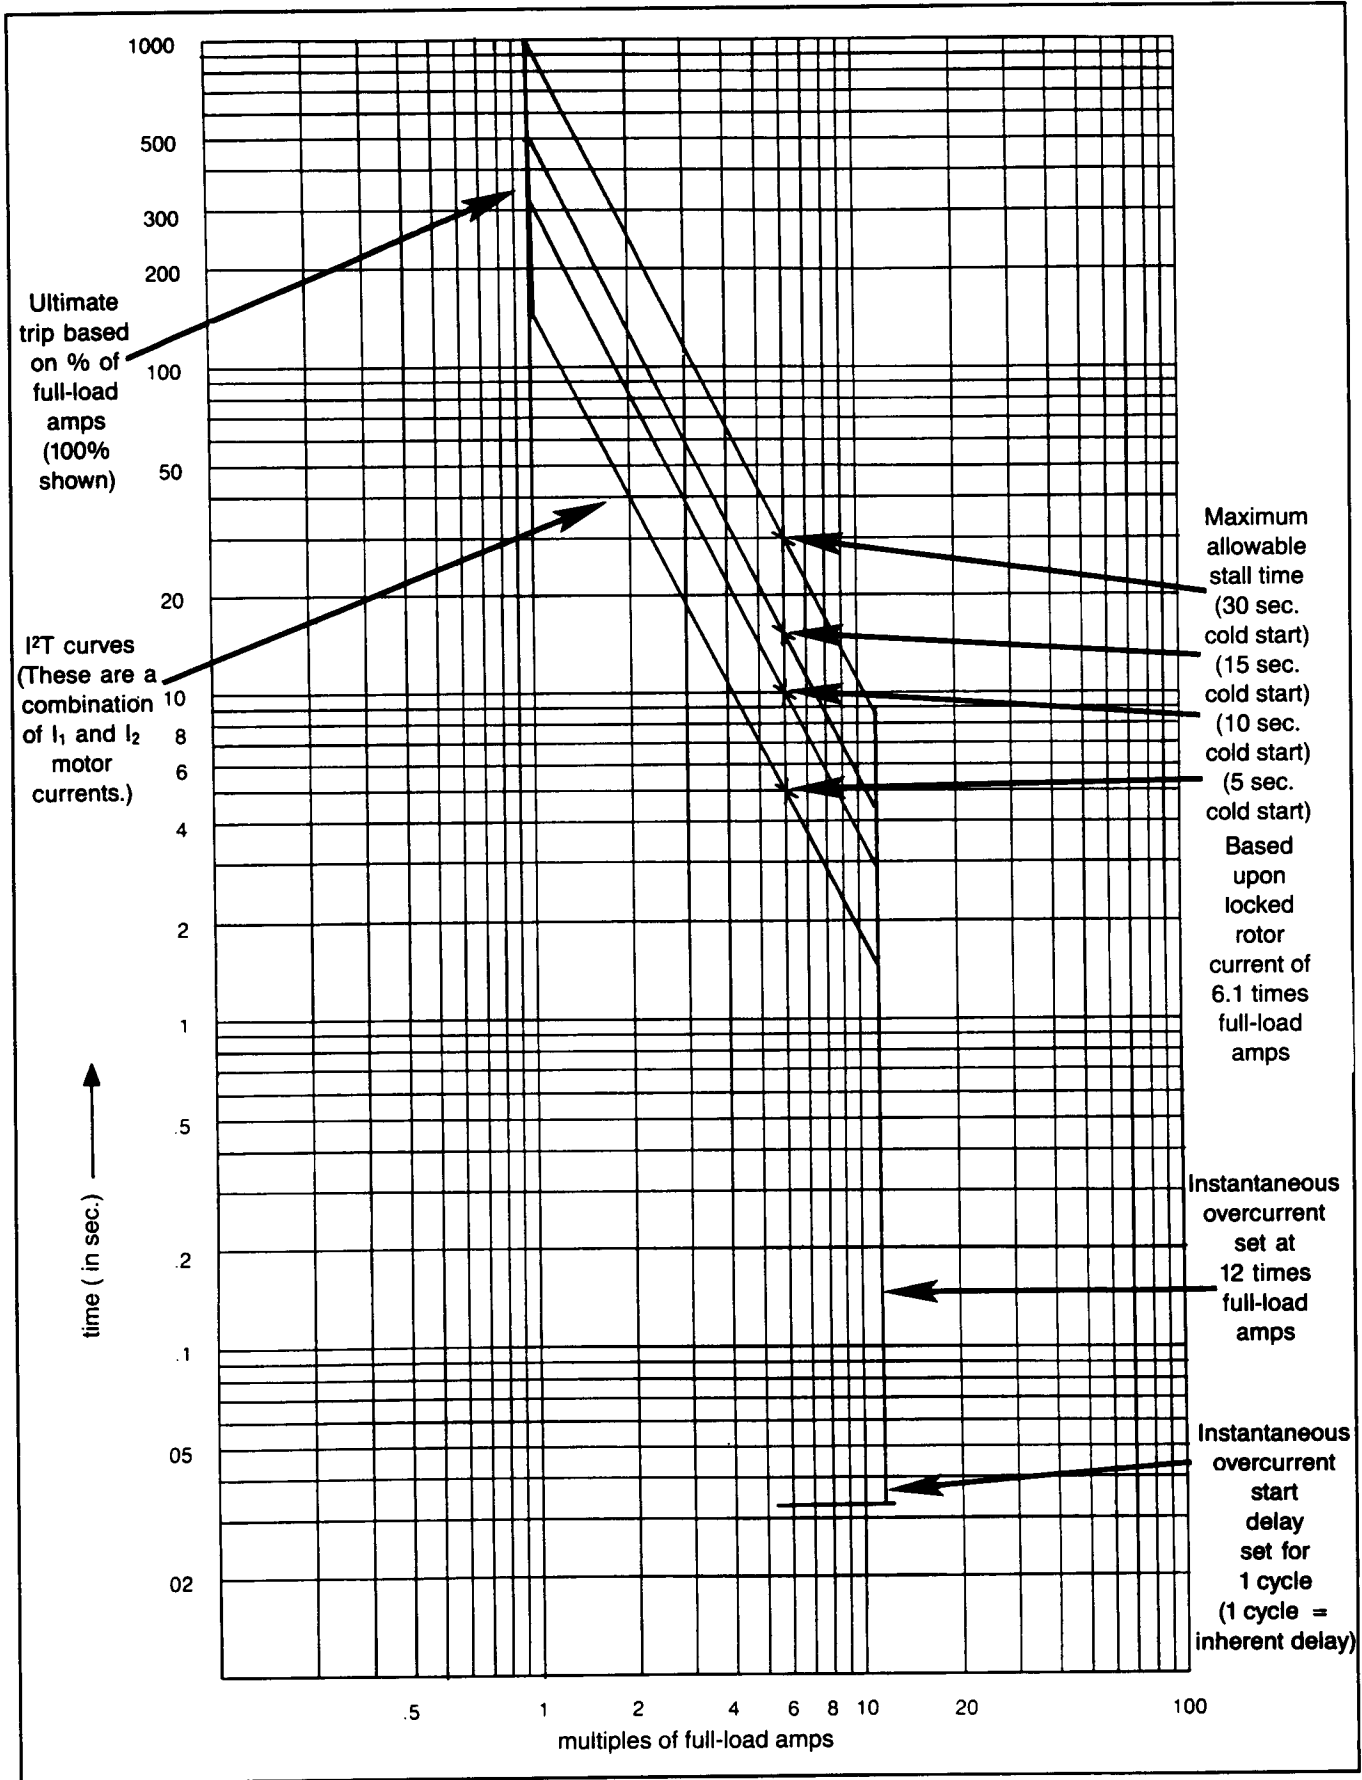

Figure 7.2 — Motor Protection Curve
point values. Note Figure 7.2. Ideally, this curve is located as close as possible to the motor damage curve, thus allowing maximum utilization of the motor without damage.
A brief discussion of how these values affect the motor protection curve is given in the following subparagraphs. The typical curve shown in Figure 7.2 is the result of the factors listed in these explanations.
7.1.3.1 Instantaneous Overcurrent Function — The specific instantaneous overcurrent (item 15) setpoint used in Figure 7.2 is 12 times (1200%) full-load amperes (item 42). In general, the instantaneous overcurrent setpoint for all applications should be at least 1.6 times the locked rotor current ratio. The instantaneous overcurrent setpoint available range is 300 thru 1600% of full-load amperes.
7.1.3.2 Locked-Rotor Function — The family of curves shown in Figure 7.2 is based upon a locked-rotor current set point (item 17) of 6.1 times (610%) the full-load amperes function's (item 42) set point and a variable locked-rotor stall time set point (item 18).
All curves shown in Figure 7.2 are based on a maximum allowable stall time from a cold start. Since the IQ-1000 II's algorithm retains a history of both the operating current and operating time of the motor, it is not necessary to program it for hot starts. The unit automatically takes into consideration whether it is a hot or cold start. The locked-rotor set point, however, should be set for a cold start.